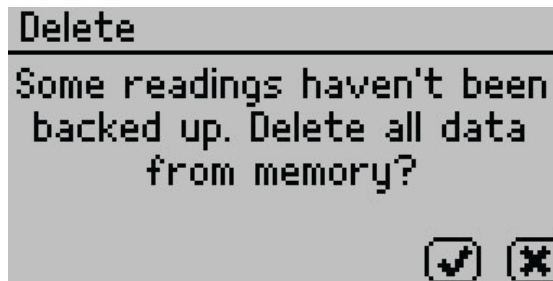

Figure 48 Delete option backup reminder dialog
- **Delete.** Select this option to delete **all** data currently stored in the instrument. Readings cannot be deleted individually. If the information has not been backed up, a reminder will appear (Figure 48).